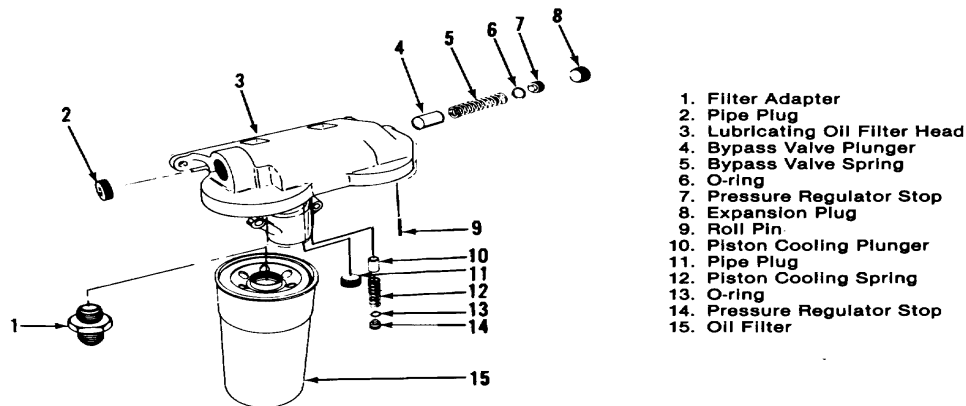

Figure 161-2. Lubricating Oil Filter
- A. Remove the pipe plugs (2, 8 and 11), Figure 161-2, pressure regulator stops (7 and 14), springs (5 and 12) and plunger (4 and 10) from filter head (3). Discard the O-rings (6 and 13).
2. Put the bypass valve plunger (4), Figure 161-2, into the bore of the filter head (3). Install the spring (5) and the pressure regulator stop (7).
3. Put the piston cooling valve plunger (10) into the bore of the filter head (3). Install the spring (12) and the pressure regulator stop (14).